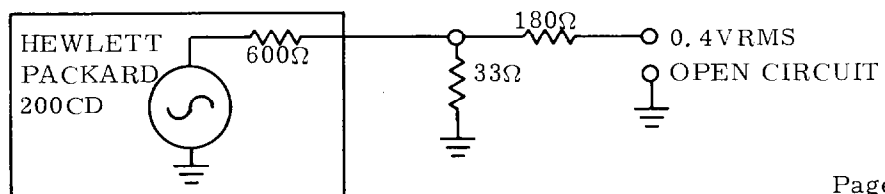

FIGURE 5-3 TEST CIRCUIT
- 4. A transmitter standard modulation signal is a 1kHz tone with 0.4 VRMS open circuit voltage as illustrated in the test circuit (Figure 5-3).